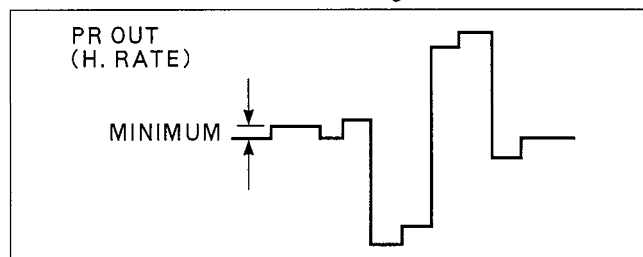

Figure E22-A
2. Adjust VR8203 so that the level becomes minimum (0mV  $\pm$  10mV) as shown in Figure E22-A.